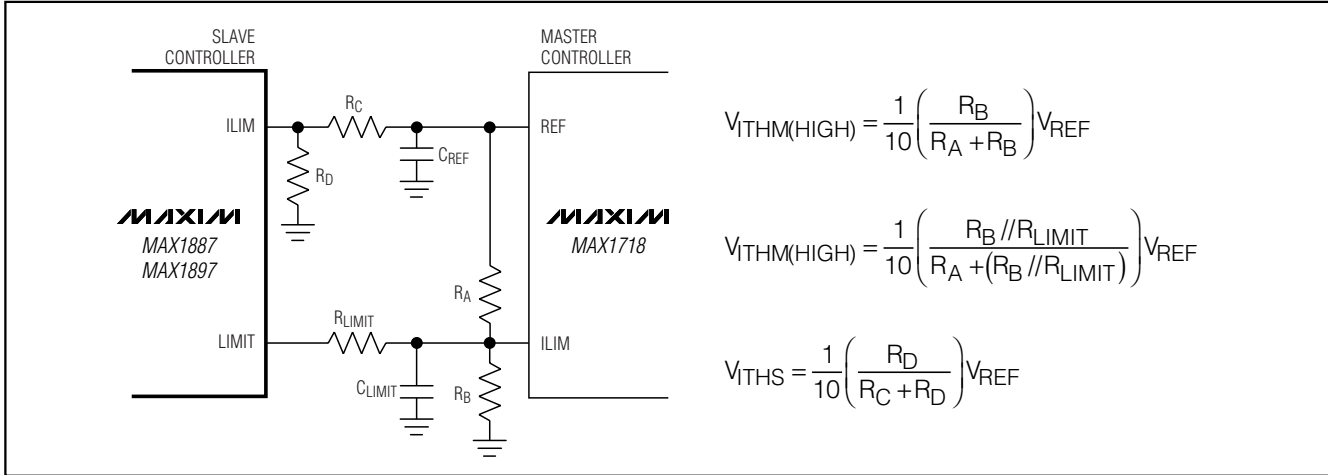

Figure 5. Setting the Adjustable Current Limits
where  $V_{I THM}$ , the master's current-limit threshold, is typically 1/10th the voltage seen at the master's ILIM input ( $V_{I THM} = 0.1 \times V_{LIM(MASTER)}$ , see the master controller's data sheet). Connect a resistive voltage-divider from the master controller's internal reference to GND, with the master's ILIM input connected to the center tap (Figure 5). Use 1% tolerance resistors in the divider with 10µA to 20µA DC bias current to prevent significant errors due to the ILIM pin's input current:
where  $V_{I THS}$ , the slave's current-limit threshold, is precisely one-tenth the voltage seen at the slave's ILIM input ( $V_{I THS} = 0.1 \times V_{LIM(SLAVE)}$ ). Connect a second resistive voltage-divider from the master controller's internal reference to GND, with the slave's ILIM input connected to the center tap (Figure 5). The external adjustment range of 400mV to 1.5V corresponds to a
Now select the resistive-divider values ( $R_A$  and  $R_B$  in Figure 5) to set the appropriate voltage at the master's ILIM input:
Select the resistive-divider values ( $R_C$  and  $R_D$  in Figure 5) to set the appropriate voltage at the slave's ILIM input:
- 4) Determine  $R_{LIMIT}$  (Figure 5) from the above equation: